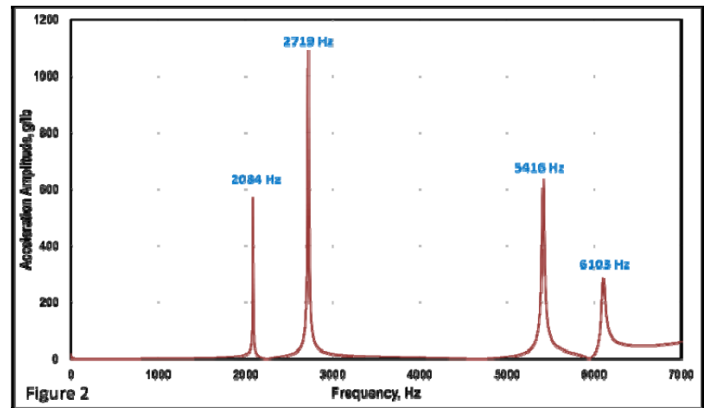

Figure 2
6) Finally, the structure natural frequencies are extracted by finding the locations of the highest responses from a plot of acceleration vs. frequency. RMS has developed peak find macros to automate this processing. An example plot with frequencies identified is shown in Figure 2.